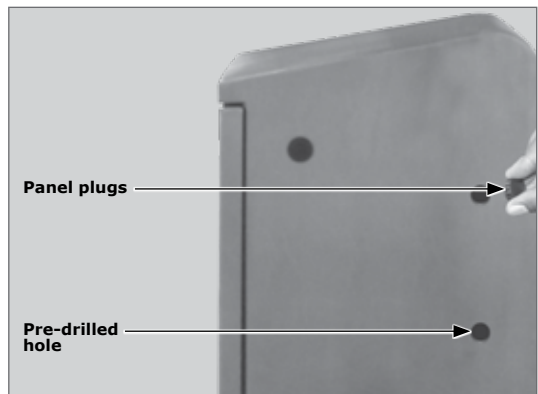

FIGURE 9
5. Decide on which side of the SECTOR the traffic light is to be mounted, and remove the two panel plugs as shown in Figure 9.